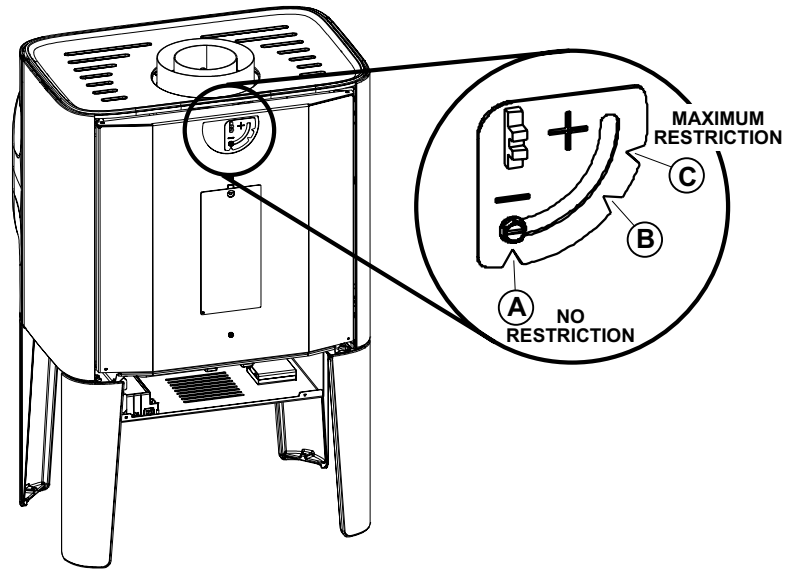
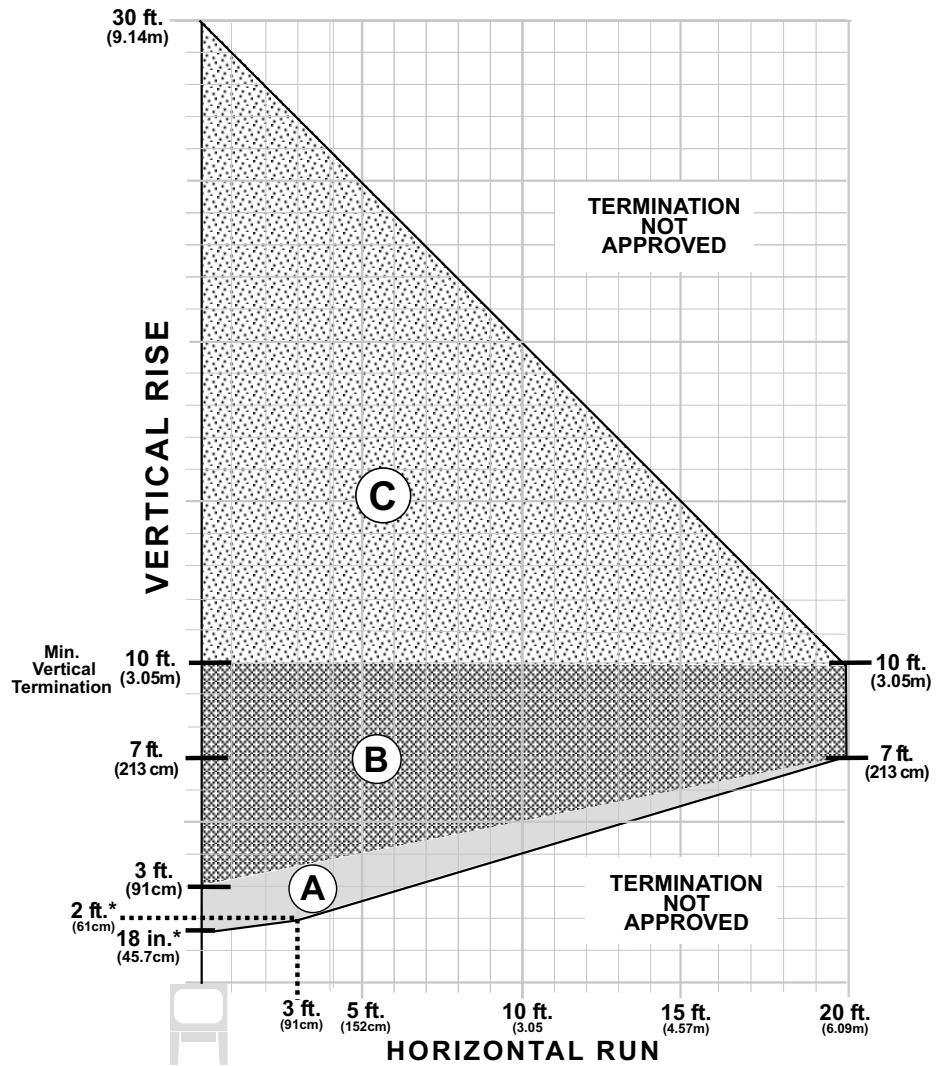

Figure 6.2.
Figure 6.3. Vent Termination Zone Matrix - NG / LP
The Exhaust Restrictor plate is located within the firebox exhaust outlet. It is adjusted by rotating the dial on the back of the stove within a range beginning at the factory-set, fully open position (no restriction) to a fully restricted position. See Fig. 6.2. The Minus (-) and Plus (+) signs on the dial relate to degrees of restriction, from zero to approximately 70%. The three, lettered positions correlate to the termination zones (A,B,C) diagrammed in figure 6.3. Use the diagram to determine the degree of restriction and shutter setting that correlates to your vent configuration.
- The termination should fall within the shaded areas of the grids depicted in the Vent Matrix, fig. 6.3, page 10.
- Any horizontal termination must fall within the shaded portion of the vent window matrix shown in fig. 6.3.
A 14" (356mm) or 36" (914mm) snorkel termination is approved when installed in conformance with the vent specifications published in this manual. See figs. 6.3 and 6.6.